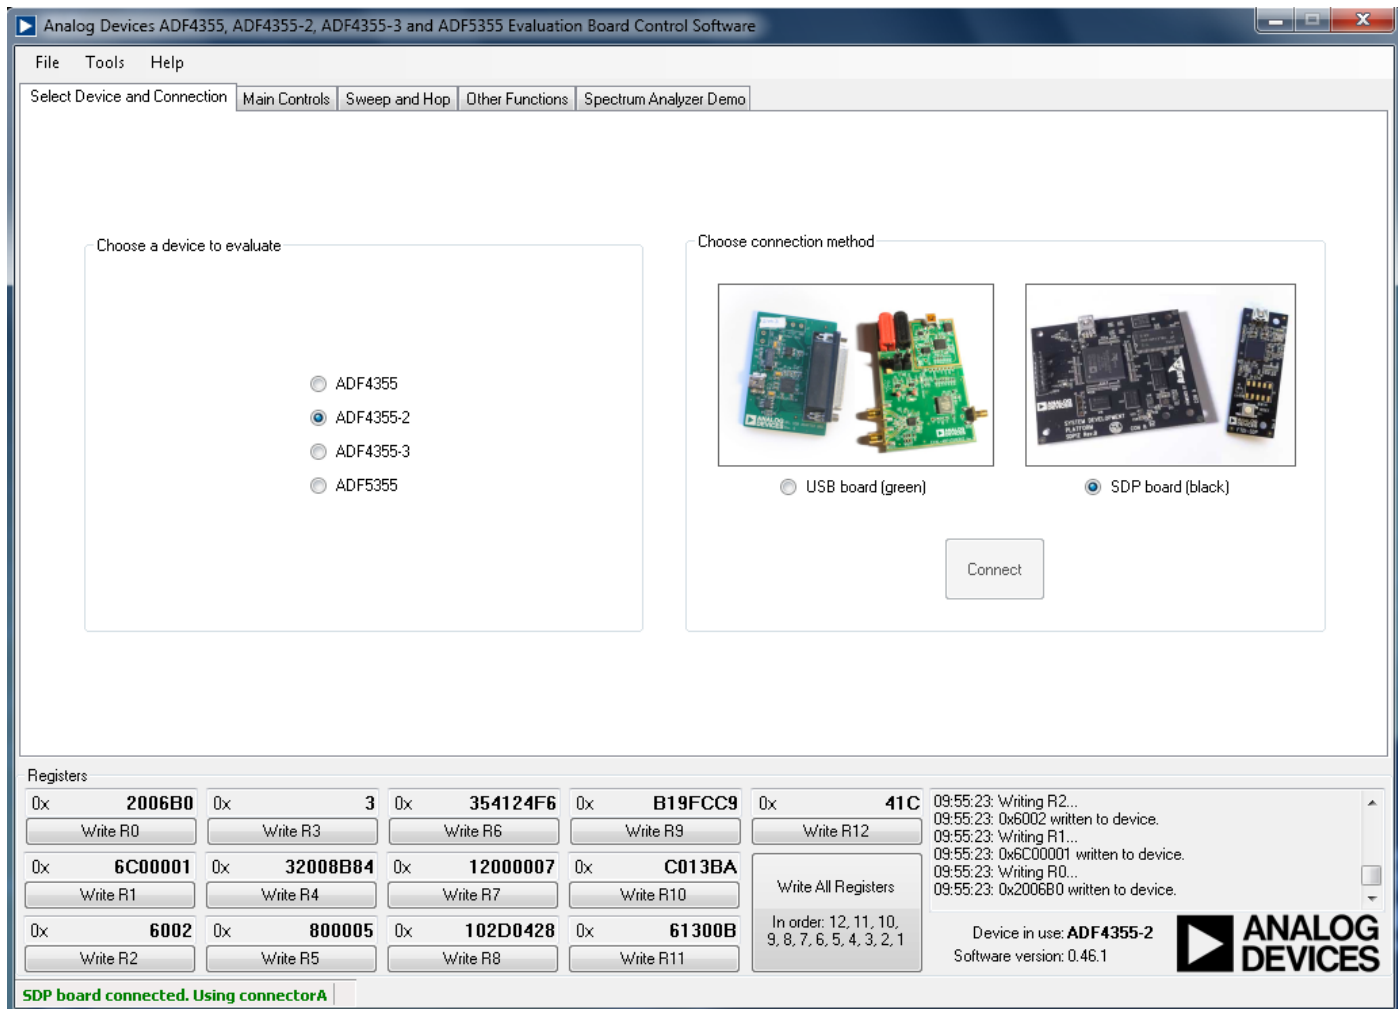

Figure 3. Software Front Panel Display—Select Device and Connection
2. On the **Select Device and Connection** tab, choose **ADF4355-2** and **SDP board (black)**, and then click **Connect** (see Figure 3).